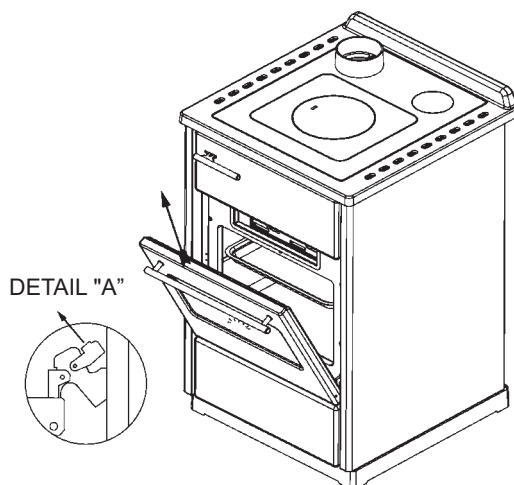

Fig. 1B
- With the door ajar, remove it from the hinge holders by pulling it up in the arrow direction (Fig. 1B)